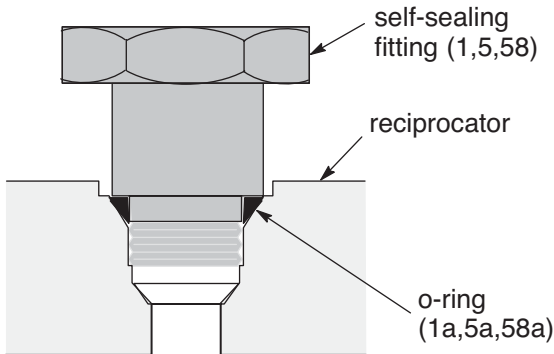
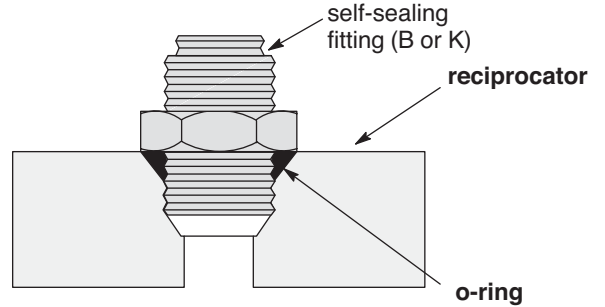

FIG. 4
FIG. 5
Models 239882, 224741, and 224742: Tighten the fittings (1, 5, 58) which are self sealing and have replaceable o-rings. If leaking persists, change the o-rings. (FIG. 4)
Model 237653: Tighten fittings (B or K). These fittings are self sealing and have replaceable o-rings. If leaking persists, change the o-rings. (FIG. 5)
4. Slowly loosen the hydraulic supply (58) and return (5) fittings to relieve any pressure, and remove the hoses. Install plugs on the tube fittings and in the hose ends. Check the o-rings (5a, 58a) on the fittings, and replace them if they are worn or damaged. See FIG. 4 and FIG. 5 and the Parts Drawing.
5. Using a strap wrench on the displacement cylinder (108), screw it out of the pump adapter (43), and pull it off the pump.
6. Pull the connecting rod (117) down as far as it will go. Remove the cotter pin (118) from the bottom of the displacement rod assembly (34), and unscrew the connecting rod until it is free.
3. Loosen both nuts on the fluid tube (45). Use a wrench to rotate the tube fittings (1, 58) to the side, and remove the tube (45). Check the o-rings (1a, 58a) on the fittings, and replace them if they are worn or damaged. Install plugs in the fittings to prevent contamination. (FIG. 4 and FIG. 5)